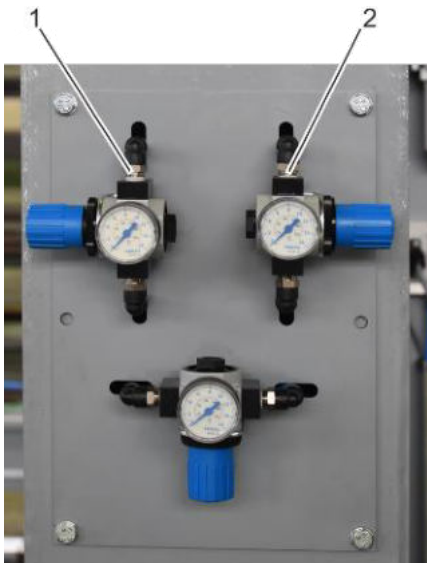

Fig. 103: Pressure regulator on welding support
1. Adjust the pressure of the contact roller with the pressure regulator mounted on the back of the welding support (Fig. 103/2) between 2.0 and 2.5 bar (29 and 36 psi).
2. Adjust the pressure of the welding roller with the pressure regulator mounted on the back of the welding support (Fig. 103/1) between 2.0 and 2.5 bar (29 and 36 psi).